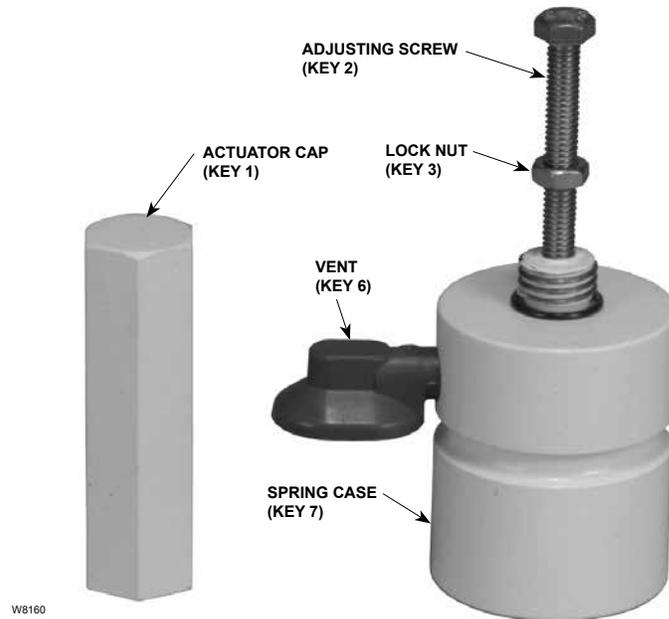

Figure 4. Spring Case, Adjusting Screw and Actuator Cap
1. Remove the actuator cap (key 1) from the top of the spring case (key 7). See Figure 4.
2. Loosen the lock nut (key 3) and turn the adjusting screw (key 2) clockwise to raise the setpoint. (Turning the screw counter-clockwise lowers the setpoint.)
4. When the adjustment is complete, tighten the lock nut (key 3) and replace the actuator cap (key 1).
1. Remove the actuator cap (key 1) and the spring load by unthreading the adjusting screw (key 2). See Figure 4.